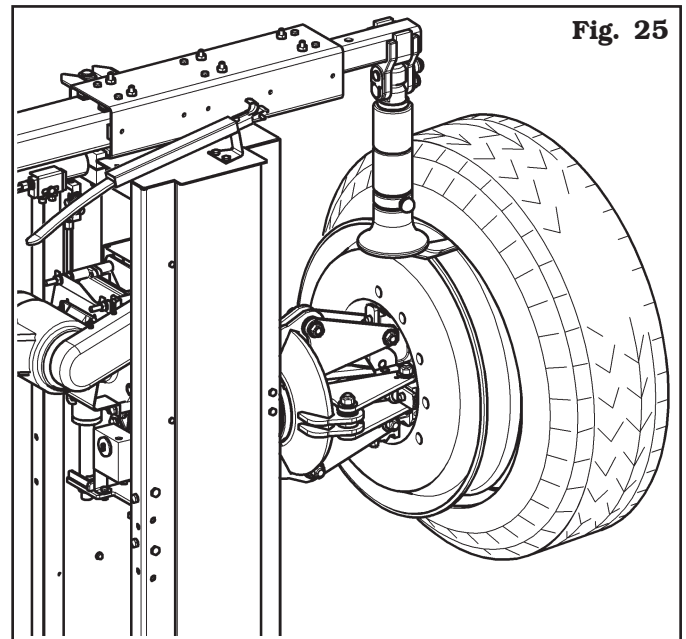

Fig. 25
8. mount the hook tool on the roller, by positioning it on the side of the tyre (see **Fig. 25**);